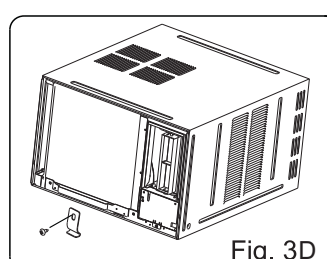

Fig. 3D
- Remove one screw on the chassis fixing bracket, then remove the chassis fixing bracket as shown in Fig.3D.